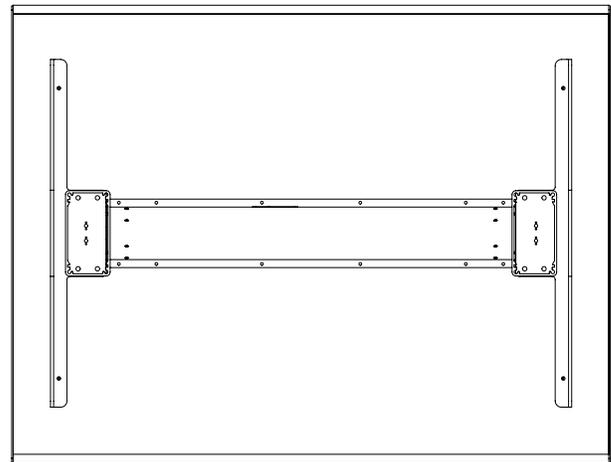

Figure 4: WorkTable, 30-42" D Work Surface
- 2b. Center the WorkTable base (Figure 4) front and back, left and right, over the predrilled holes of work surface.